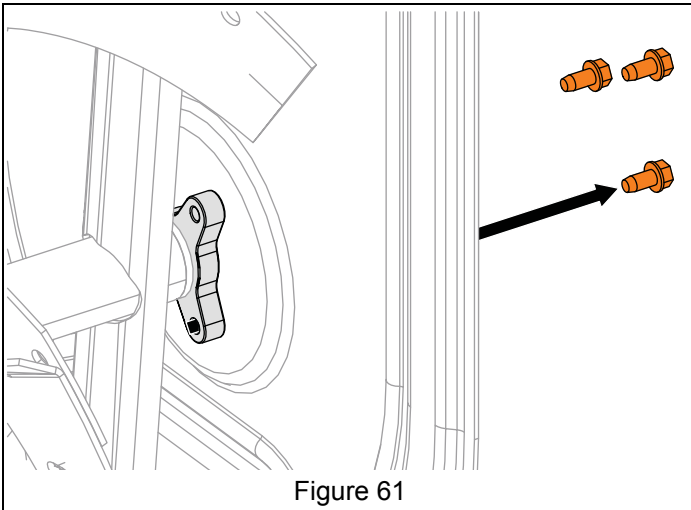

Figure 61
7. Remove hardware retaining support bushings to auger housing. See Figure 61.
7. Remove hardware securing auger bushings to auger housing. See Figure 61.